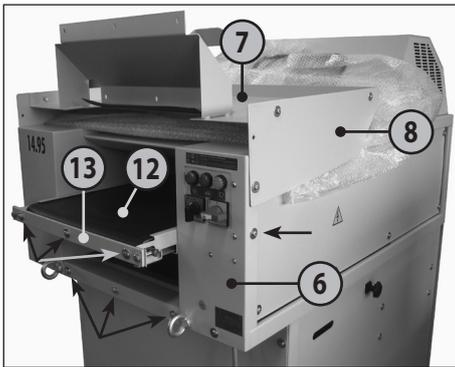

fig. 1
- 6 = **Housing** (fig. 1, 2, 4)
- 7 = **Table** (fig. 1, 2, 4, 5, 6)
- 8 = **Guard panel** (fig. 1, 2, 4)
- 12 = **Conveyer belt** (fig. 1, 2)
- 13 = **Conveyor belt retainer** (fig. 1)
**POSITIONING OF THE TABLE (7) (figs. 1, 2 and 3):**
1. Unscrew each of the 3 screws with washers on the front wall of the housing (6) and on the front of the conveyor belt attachment (13) as well as the one screw on both sides under the protective plate (8) (see arrow markings fig. 1).